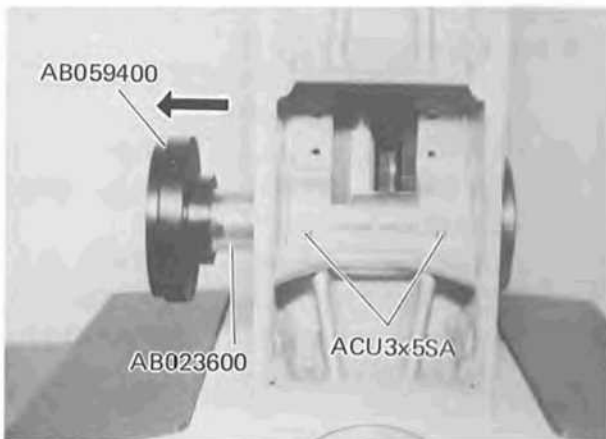

Fig. 3-14
(See Fig. 3-14.)
b) Extract Pinion Mount in the direction indicated by arrow in Fig. 3-14.